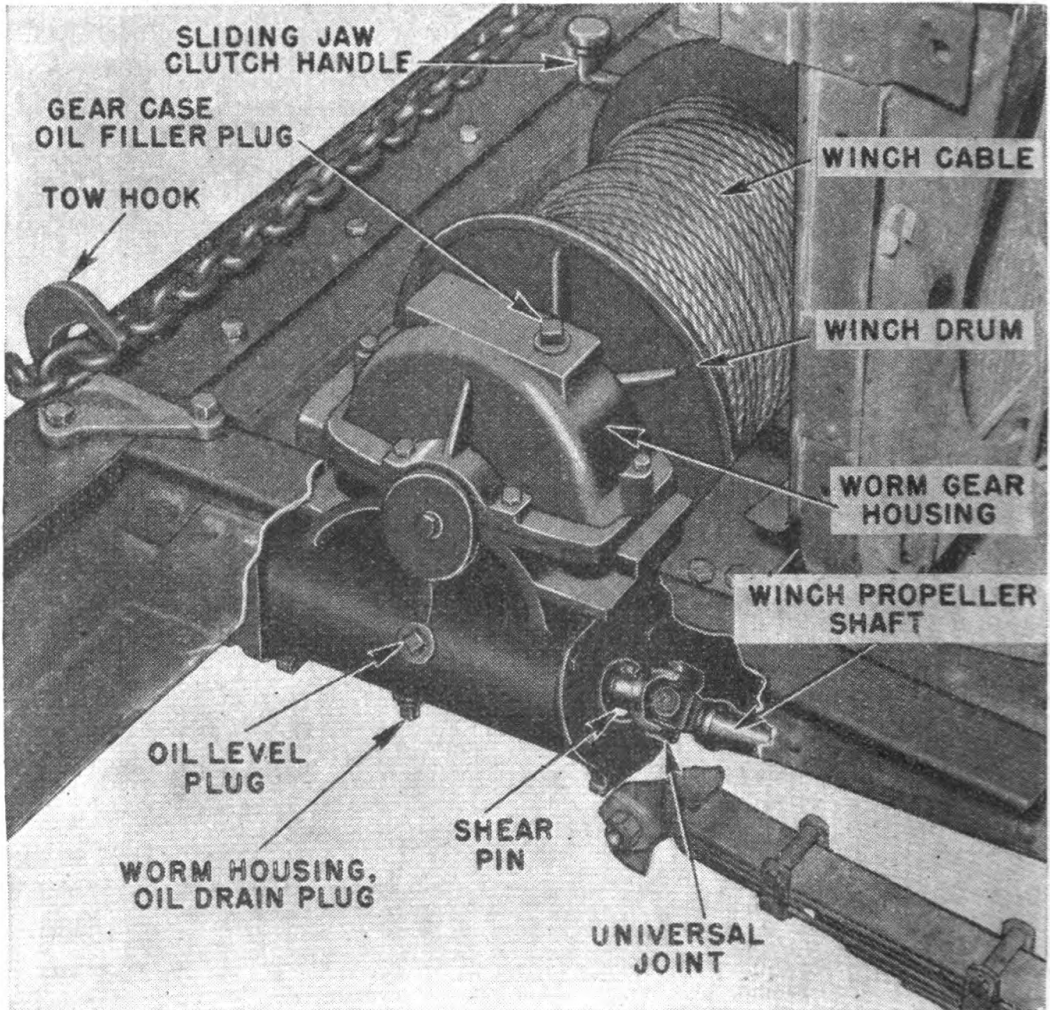

FIGURE 37.—Details of a front-mounted winch.
c. *Winch worm housing.*—At the front end of the propeller shaft, connection is made with a gearing arrangement inclosed within a gear case called the winch worm housing. (See fig. 37.) This gearing arrangement transmits power to the winch axle or drum shaft on which the drum is mounted.
**274. Shear pin.**—Point out the shear pin (fig. 37) provided between the propeller shaft and the gear housing. Emphasize the following:
**276. Sliding jaw clutch.**—Point out the hand-operated sliding jaw clutch (fig. 37) located at the right end of the winch drum. Indicate that the sliding jaw clutch permits the drum shaft and drum to be engaged or disengaged at will. Also, that the sliding jaw clutch must be kept engaged at all times, except when pulling the cable off the drum by hand. If the sliding jaw clutch is not kept engaged, the cable and chain may unwind and drag on the ground, in which case serious damage might result.
(1) Reverse speed position in which the cable is unreeled from the drum or spool.
(2) The two neutral positions into which shifting is done when changing from one gear ratio to another and from forward ratios to reverse.
(3) Low-speed position, in which the cable is wound on the drum at slow speed and with a maximum of effort.
(4) High-speed position, in which the cable is wound on the drum at a greater speed and with less effort.